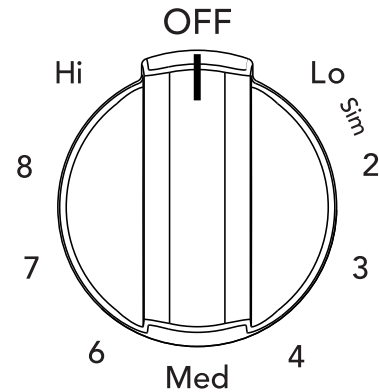

Figure 8: Surface control knob
2. Push in and turn the surface control knob in either direction (Figure 8) to the desired setting (refer to the Table 1).
Start most cooking operations on a higher setting and then turn to a lower setting to finish cooking. The surface control knobs do not have to be set exactly on a particular spot. Use the graphics provided as a guide and adjust the control knob as needed (see Figure 8).